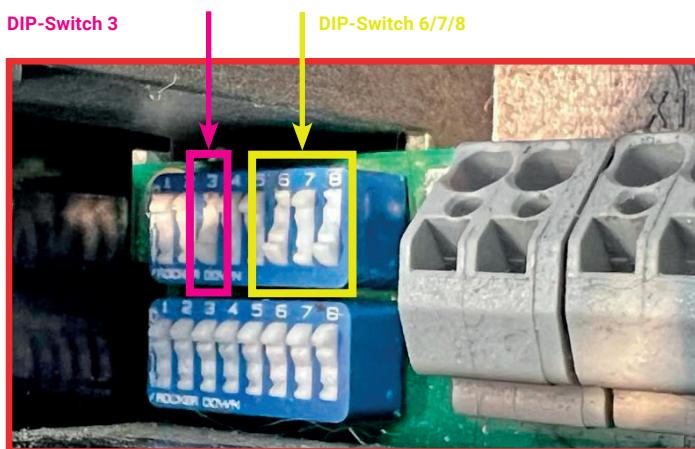

Fig. 34: Example of DIP-Switch setting for 32 Ampere (22kW)
- 3** Set DIP switch "3" to the "ON" position. See: Fig. 34.